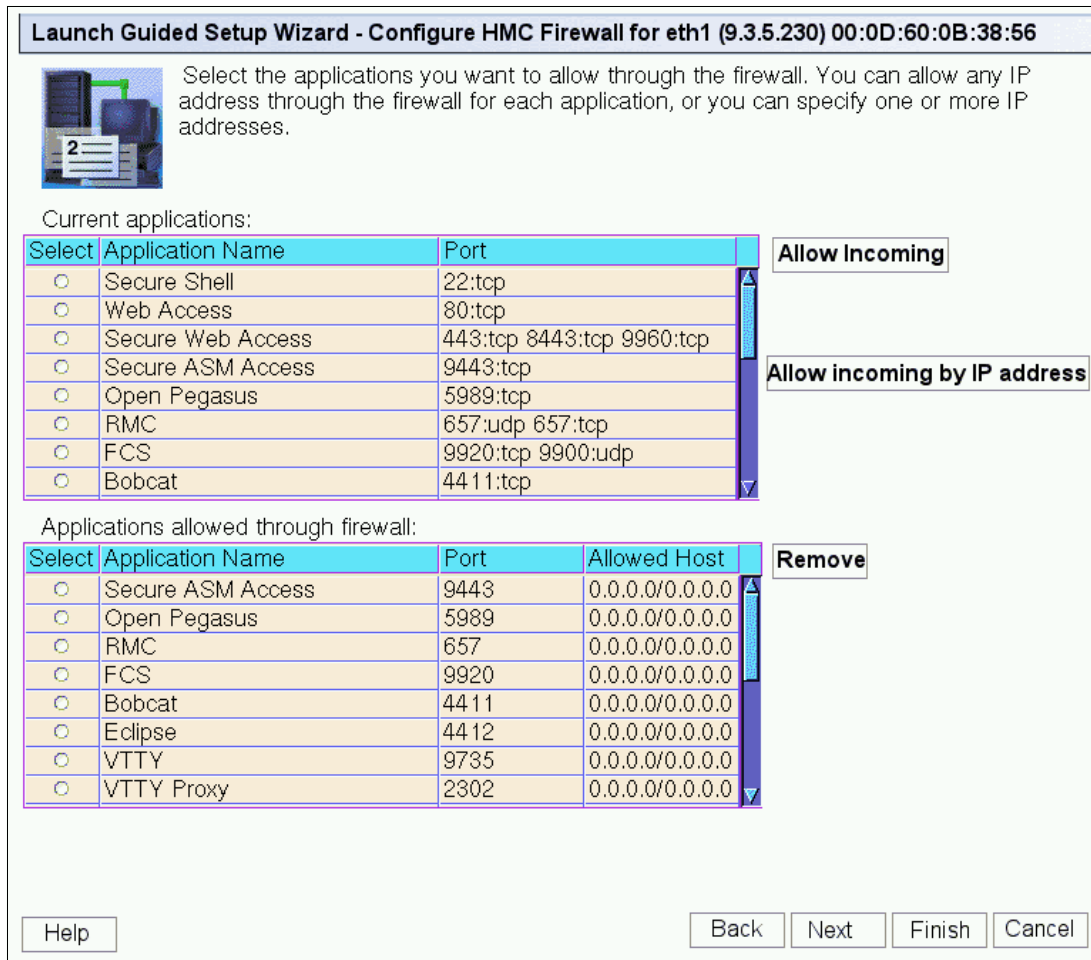

Figure 3-13 Launch Guided Setup Wizard - Configure HMC Firewall for eth1
17. The Launch Guided Setup Wizard - Configure HMC Firewall for eth1 panel displays then (see Figure 3-13). The top panel lists all of the available applications that are on the HMC. The bottom panel lists all applications that are available to the open network through the HMC firewall.